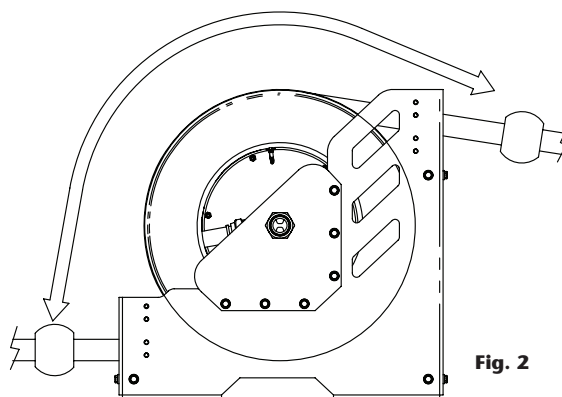

Fig. 2
4. Orientate the hose (it is not necessary to disassemble the hose stopper) towards the new hose outlet position. To do this, grab firmly the hose, unlatch the spool and turn it until the hose reach its new position (fig. 2). Then, latch the spool again, at the nearest position.